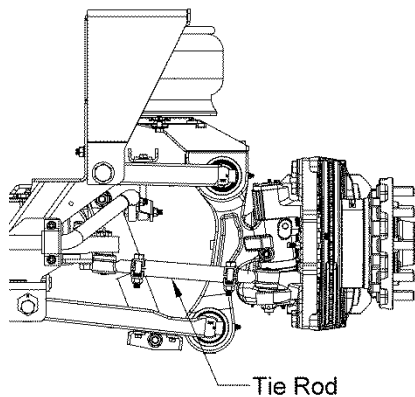

Figure 18 – Tie Rod Clamps
3. Adjust the length of both outer tie rods equally such that the toe-in on each side is $1/16'' \pm 1/32''$ and the overall toe-in is $1/8'' \pm 1/16''$. Tighten tie rod clamp nuts to **50-60 ft-lb** (See Torque Table). Refer to **Figure 18** **Figure 6** for tie rod clamp orientation.